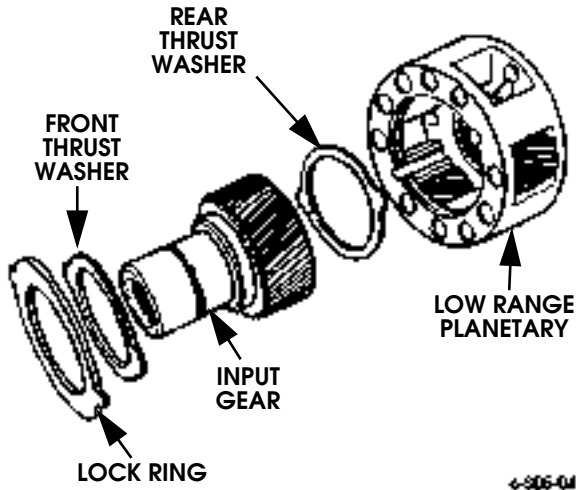

Figure 5-109: Input/Low Range Planetary Gear Disassembly Sequence
- b. Remove lock ring and front thrust washer (Figure 5-109).
- c. Remove input gear and rear thrust washer from low range planetary (Figure 5-109).